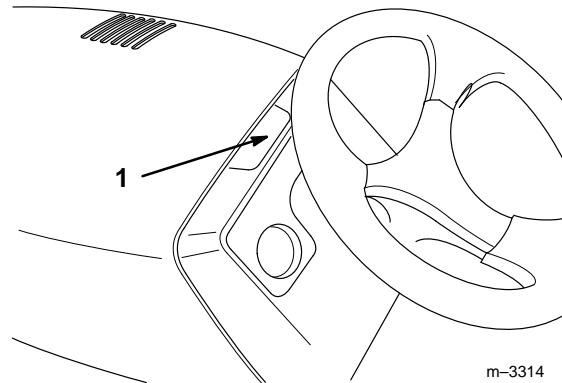

Figure 1
2. Push the hood latch (Fig. 1), located just above the indicator light panel, to the left.